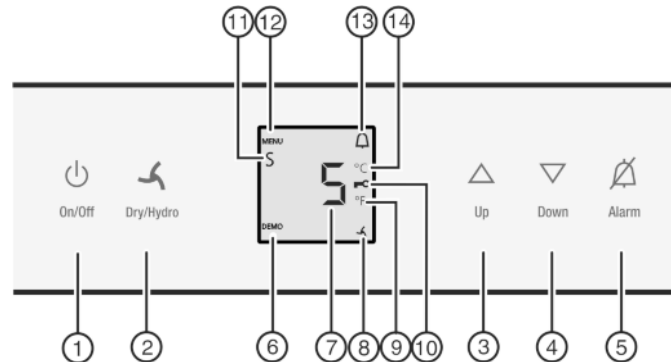

Fig. 2
- ▶ Press On/Off button *Fig. 2 (1)*.
- ▶ To activate setting mode: Press and hold the Dry/Hydro button *Fig. 2 (2)* for approx. 5 s.
- ▷ The Menu symbol *Fig. 2 (12)* lights up.
- ▶ Using Up button *Fig. 2 (3)*/ Down button *Fig. 2 (4)* select °.
- ▶ To confirm: Briefly press the Dry/Hydro button *Fig. 2 (2)*.
- ▶ To exit setting mode: Press On/Off button *Fig. 2 (1)*.
- ▶ To activate setting mode: Press and hold the Dry/Hydro button *Fig. 2 (2)* for approx. 6 s.
- ▶ Press the Dry/Hydro button *Fig. 2 (2)* briefly to confirm.
- ▶ To switch on the child-proof lock, press the Dry/Hydro button *Fig. 2 (2)* briefly.
- ▷ The Child safety symbol *Fig. 2 (10)* lights up. c flashes on the display.
- ▶ To switch off the child-proof lock, press the Dry/Hydro button *Fig. 2 (2)* briefly.
- ▷ The Child Safety symbol *Fig. 2 (10)* goes out. c flashes on the display.
- ▶ To cancel setting mode: Press the On/Off button *Fig. 2 (1)*.
- ▶ Press Alarm button *Fig. 2 (5)*.
- ▶ To access the Sabbath mode function: Briefly press the Dry/Hydro button *Fig. 2 (2)*.
- ▶ **To turn on** Sabbath mode, briefly press the Dry/Hydro button *Fig. 2 (2)*.
- ▶ **To turn off** Sabbath mode, briefly press the Dry/Hydro button *Fig. 2 (2)*.
- ▶ To deactivate setting mode: Press the On/Off button *Fig. 2 (1)*.
- ▷ The Sabbath Mode symbol *Fig. 2 (11)* appears on the temperature display as long as Sabbath Mode is active.